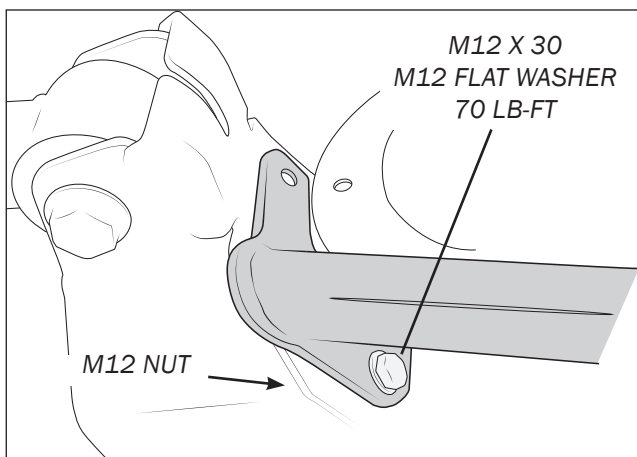

Figure 10
- c. Drill the remaining hole in the control arm bracket and treat for corrosion, then install the remaining bolt (fig. 10).